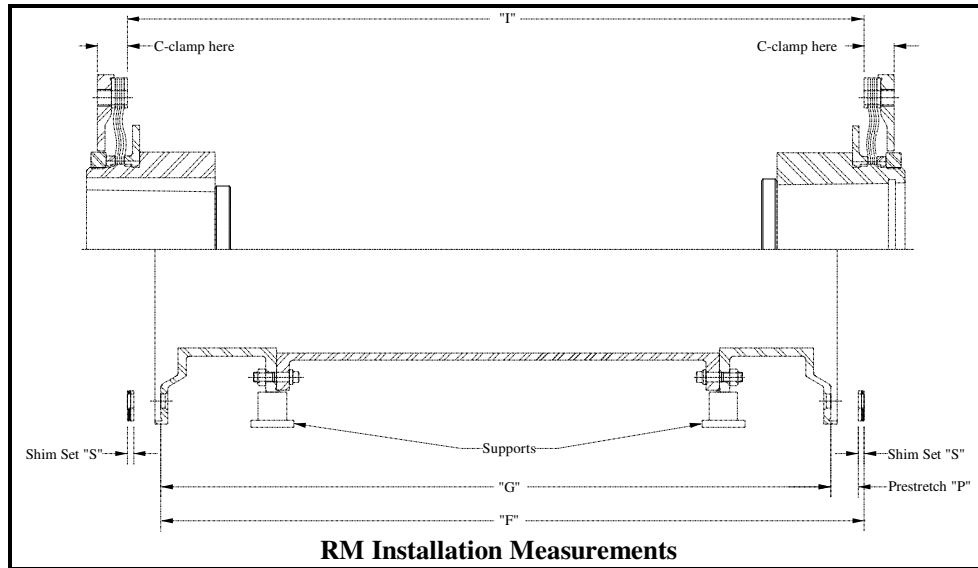

Figure 4-8
- 4.4.2.1 Measure and record, on the worksheet in Paragraph 4.4.5, the installation length "I" (distance between mounted diaphragm pack faces) at four (4) places approximately 90° apart. It is recommended that C-clamps be used to compress the diaphragm pack at the location the measurements are being taken (see Figure 4-8).
- 4.4.2.2 Assemble the pack adapters onto the spacer taking care to re-align the matchmarks and end identification letters. Install a minimum of four (4) bolts approximately 90° apart through each flange and tighten the bolts evenly in a criss-cross pattern to seat the pilots. Support as shown in Figure 4-8.
- 4.4.2.3 Measure and record, on the worksheet in Paragraph 4.4.5, the coupling free length "G" (distance between pack adapter outer flange faces) at four (4) places approximately 90° apart (see Figure 4-8).